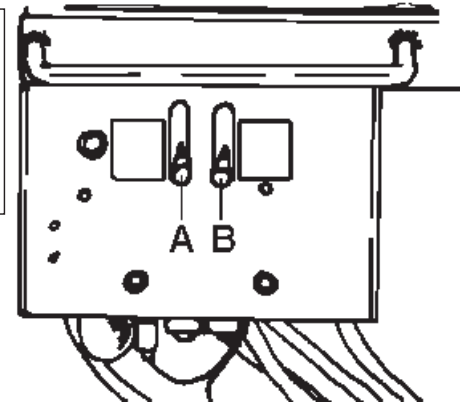
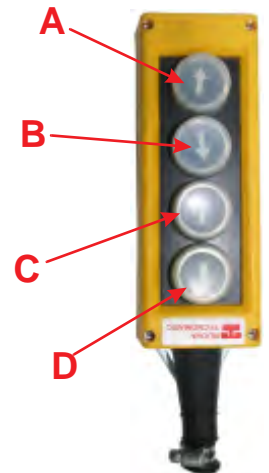
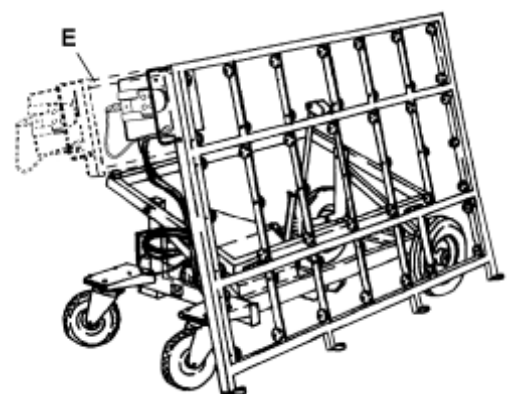

Fig.6a
Fig.6b
Fig.7
- operate the four control buttons (Fig.6b) of the pendant to lift or lower the slab.
- lower the right lever “B” (Fig.6a) (*LC version*).
- hold the “D” button (Fig.6b) (*PC version*).
- To load the slab, operate the two control levers "A" and "B" (Fig.6a) until the work top stands vertically (see Fig.7).
- To load the slab, operate the four control buttons of the pendant (Fig.6b) until the work top stands vertically (see Fig.7).
It is possible to extract the retrievable arm "E" (Fig.7) to simplify the command operations, if a big-size slab was placed on the work top. No. 2 knobs set under the extraction guides of the arm permit its sliding/locking position.